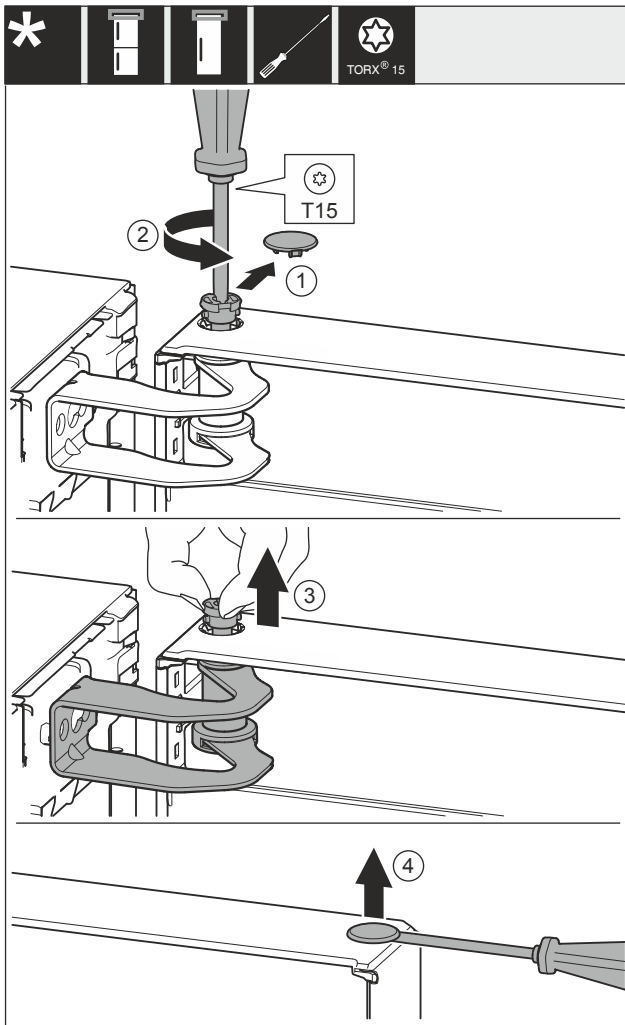

Fig. 15
- ▶ Carefully remove the cover Fig. 15 (1).
- ▶ Use screwdriver to loosen the bolts Fig. 15 (2) a little.
- ▶ Pull out the bolt Fig. 15 (3) with your fingers.
- ▶ Carefully lift and remove the cover Fig. 15 (4) with a screwdriver.